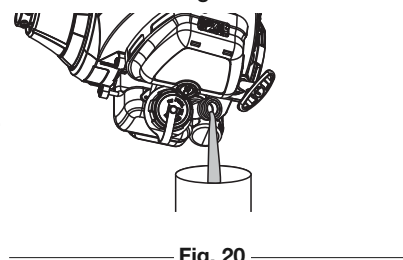

Fig. 20
2. Pour the oil out of the oil fill hole and into a container by tipping the unit to the side (Fig. 20). Allow ample time for complete drainage.